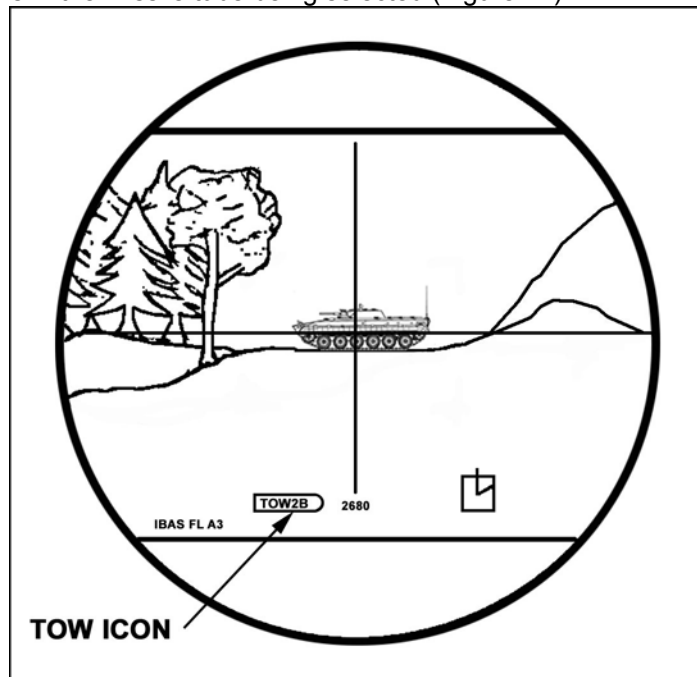

Figure 12. TOW icon.
- (1) If MSL 1 or MSL 2 indicator light flashes, then MSL 1 or MSL 2 is empty. Load the empty TOW missile tubes.
- (2) If TOW 2A or TOW 2B appears in the weapons selected field of the TAS reticle, a TOW 2 missile is in the missile tube being selected (Figure 12).